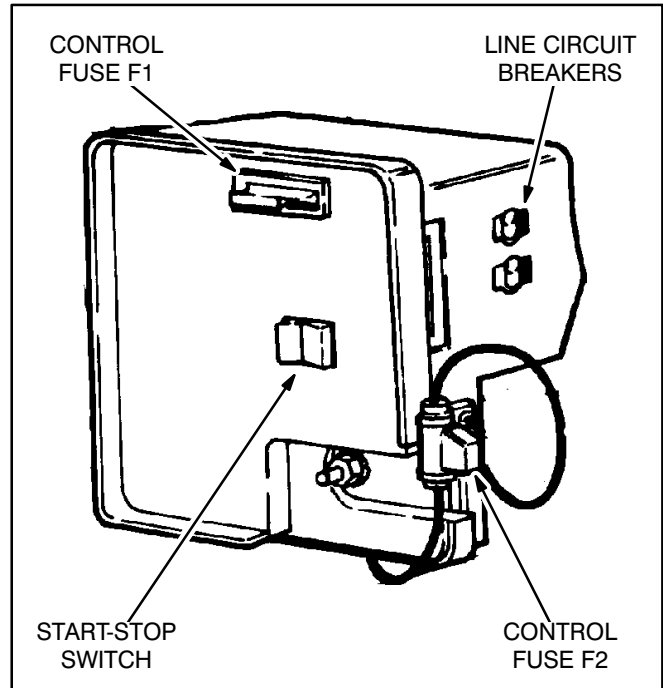

FIGURE 5. GENSET CONTROL PANEL
The genset control panel (Figure 5) and box include the following features:
2. Push and hold the genset or remote START switch (Figures 5 and 6) until the genset starts. (The remote START switch inside the vehicle should have a lamp which lights to indicate that the genset has started and is running.)